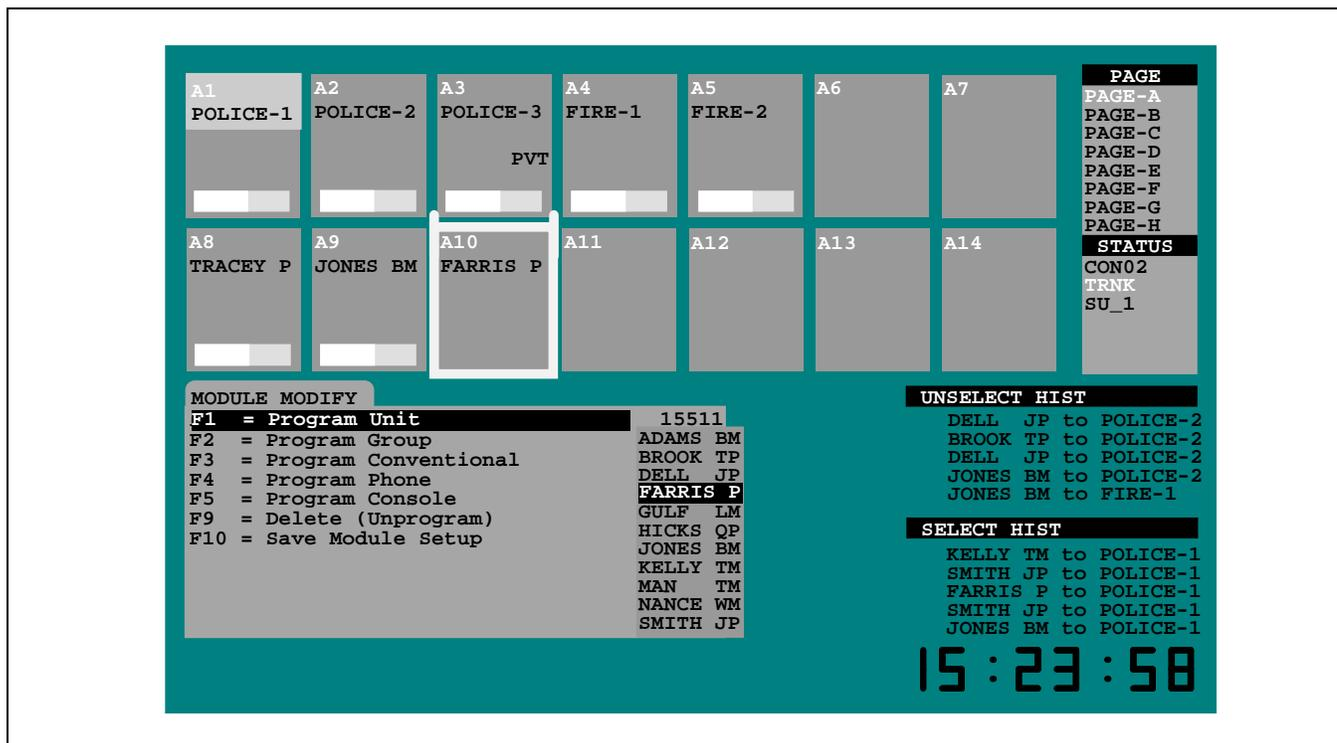

Figure 1 – C3 Maestro Video Display Monitor (Typical; Module Modify Operation Shown)
The PC's video display monitor provides all visual dispatch control indications to the operating dispatcher. This color monitor is typically of a VGA or super-VGA resolution. Basic screen layout is shown in Figure 1. Screen areas include:
- **Call History and Scroll Area** – This area, located in the lower right-hand side of the screen, displays the last five (5) select calls and the last five (5) unselect calls received. The list is displayed on a caller-to-callee basis. In addition, a detailed scroll list of the last thirty-two (32) select and thirty-two unselect calls is provided. For each call, this detailed list includes caller and callee ID numbers, time the call started, type of call, site used by caller, and the call's module information. A scroll list is *not* shown in Figure 1.